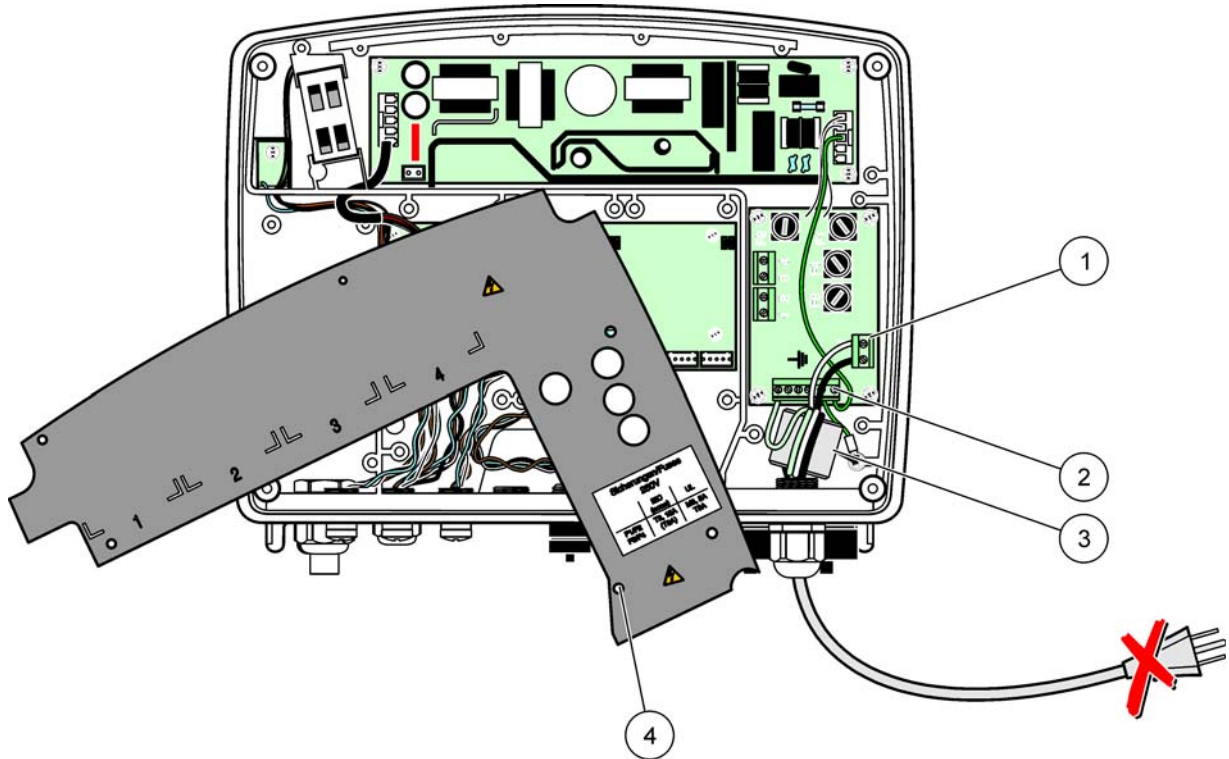
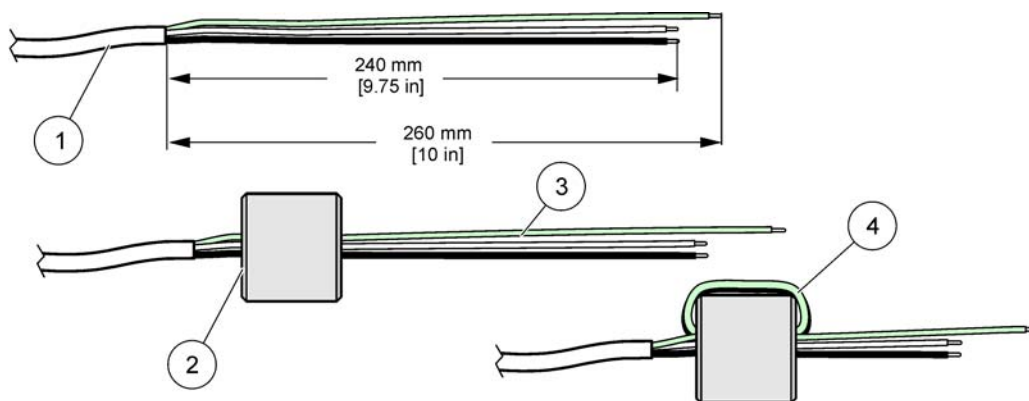

Figure 10 Wiring for power
Figure 12 Proper wire preparation and ferrite core wiring
6. Strip the cable outer insulation 260 mm (10 in.) (Figure 12). Shorten all wires except the earth wire 20 mm (0.78 in.), so the earth cable is 20 mm (0.78 in.) longer than the other cables.
7. Feed the stripped power cable through the ferrite core twice (Figure 12) and wire into the terminal as shown in Table 1 and Figure 10. Tug gently after each insertion to make sure that the connection is secure.